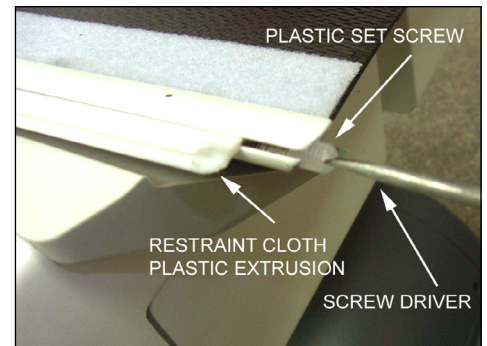

Fig. 35
2. Remove the existing Plastic Set Screws constraining the GE CT Cradle Restraint Cloth Plastic Extrusion at the head end of the cradle (Fig. 35).
4. Reinstall the Plastic Set Screws (2) in the GE CT Cradle